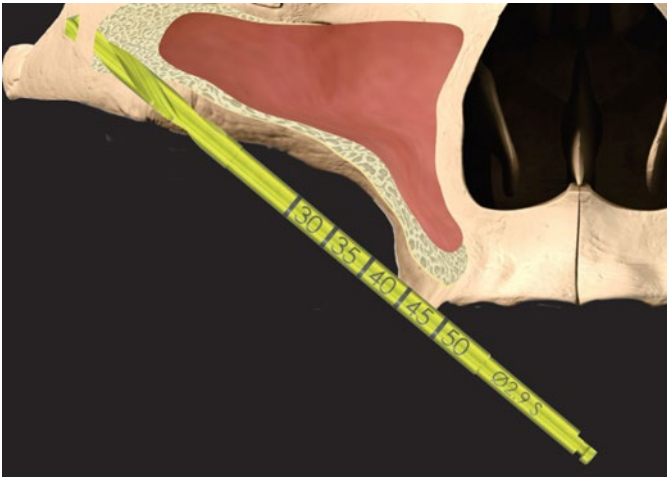

Figure 15
4. The implant site is established by means of the Ø2.9 mm twist drill (D-ZYG-29/ D-ZYG-29S/ D-ZYG-CH-29/ D-ZYG-CH-29S) and continued into the zygoma (Figure 15). (D-ZYG-29/ D-ZYG-29S/ D-ZYG-CH-29/